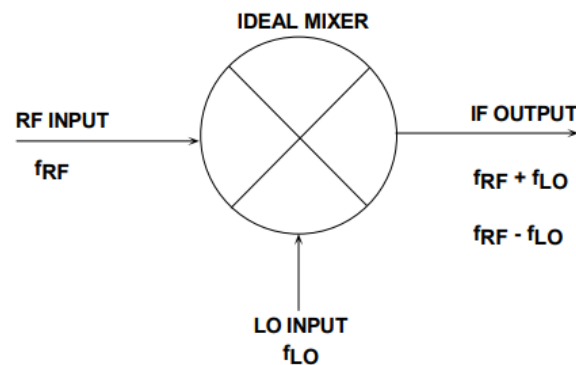

Figure 2: Simplified Mixer Model. I chose 28.4MHz for RF, and 17.7MHz for the LO.
The circuit that creates the new IF from the two fundamental frequencies is called the *mixer*. So, what is a mixer? Figure 2 shows a block diagram of a typical circuit with the input and output ports. Mixers are identified with a circle diagram with an “X” inside as shown. These devices have two inputs and one output.
**STEP 1:** The radio frequency (RF) that we wish to listen to is connected to the RF input ( $f_{RF}$ ) of our mixer. This contains *all* the AM/FM/HAM band of radio frequencies our antenna is picking up, including the one we are interested in. The unwanted stations must be filtered out so we can listen to the specific one we want. To do that, the desired frequency we want is *frequency-shifted* to the IF described above. In AM, that IF is 455KHz and in FM it is 10.7MHz. **In this demo, I chose 28.4MHz as my desired channel or carrier frequency.** This is referred to as the RF that would normally be selected in the radio tuner circuit.
**STEP 3:** The mixing process involves multiplying the two signals together. The result is that several new frequencies are created. The two we are interested in are called the *sum* and *difference* frequencies. Figure 2 defines these frequencies as  $f_{RF} + f_{LO}$  (sum frequency) and  $f_{RF} - f_{LO}$  (difference frequency).